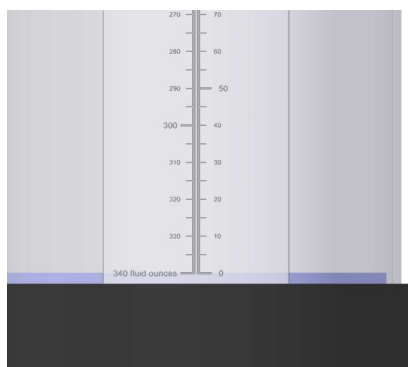

Figure 1
9. While the pump is still running, place the top return valve to the TO CALIBRATE position. Once the liquid in the calibration tube reaches zero press HAND or OFF to stop the pump, see figure 1 below.